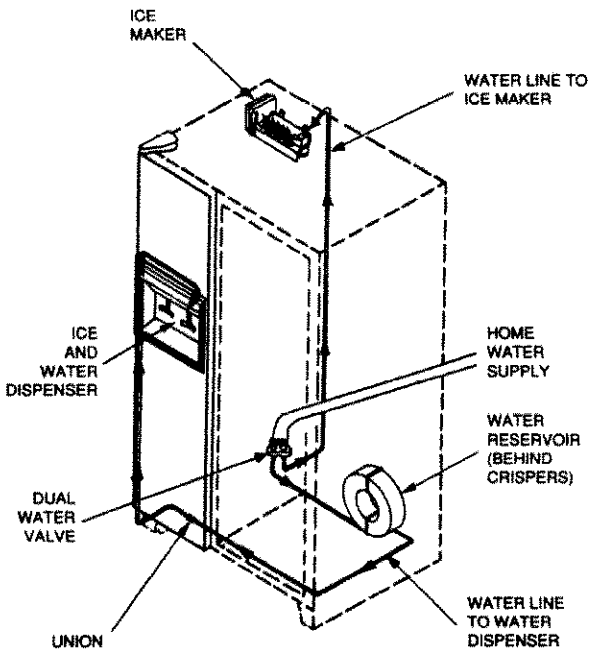

Figure 34
- When the Dispenser bar is activated, a solenoid in the water line is energized and water is added to the reservoir. Using the force of the household water pressure, water moves into the tubing and out through the Dispenser. See Figure 34.